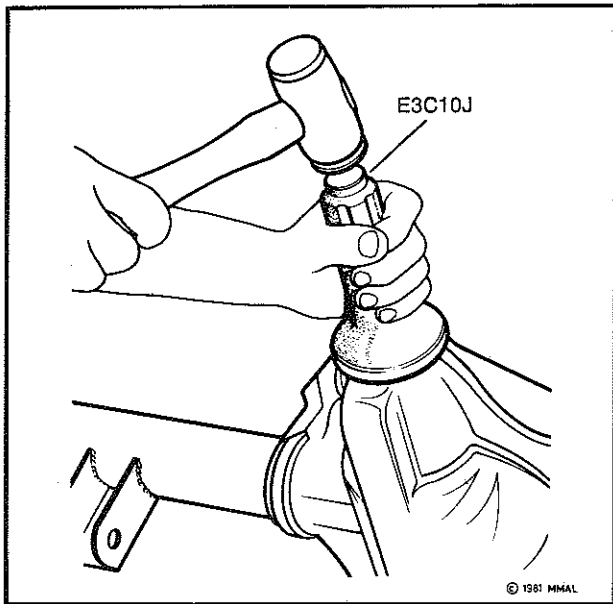

Fig. 16—Installing pinion oil seal
(7) Install a new pinion oil seal with tool E3C10J (refer Fig. 16) flush to 0,25 mm (0.010") below surface of carrier.